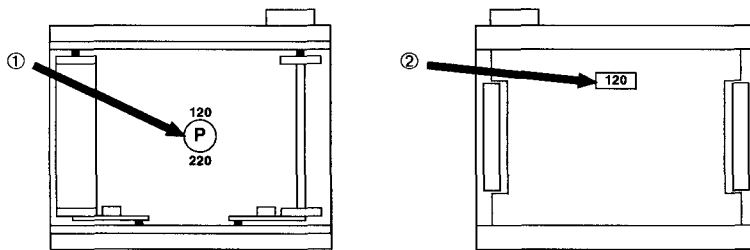

Figure 3 The pressure plate selector dial (Ⓟ) and pressure plate in position for 120 film. A window (Ⓢ) in the pressure plate displays the current film size.
- Step 2: With your fingertips, push in the pressure plate selector dial (Ⓟ in Figure 3). This lifts the pressure plate up and away from the other side of the cartridge.